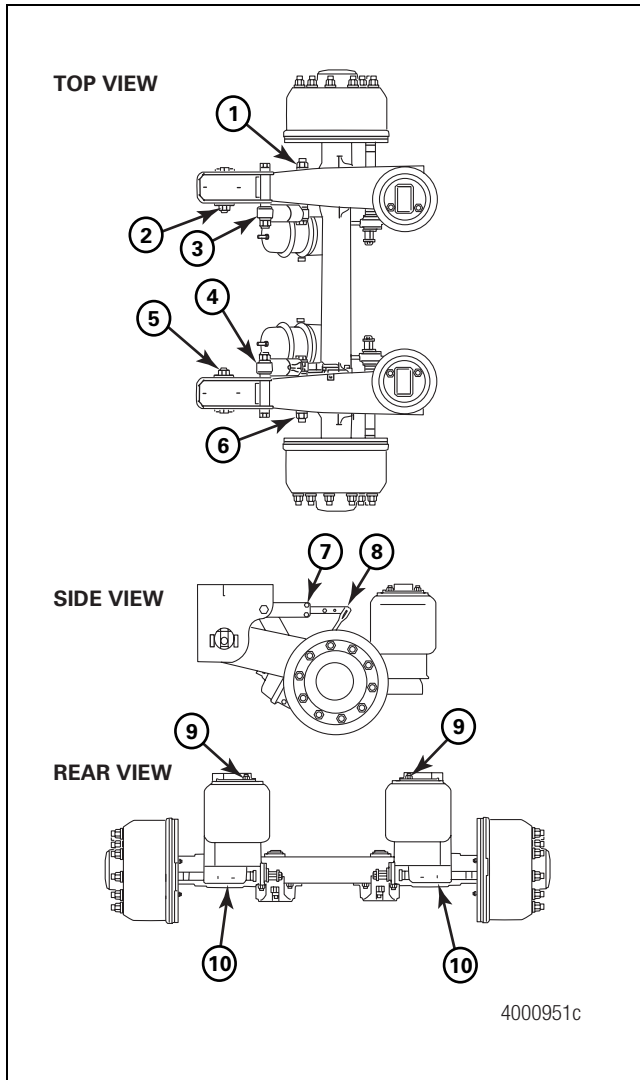

Figure 9.23
2. Visually inspect all nuts and bolts for looseness and movement. Figure 9.23. Tighten loose fasteners to the correct torque values. Thereafter, inspect the suspension components each time the trailer is serviced.